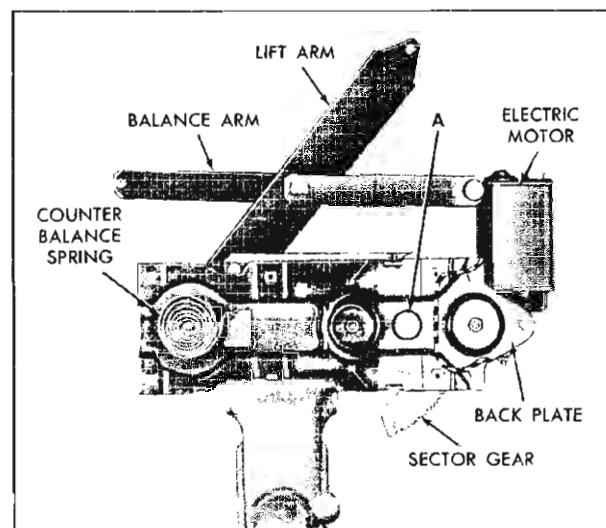

Fig. 3-43 Electric Window Regulator
1. Remove electric window regulator assembly from door and/or rear quarter and clamp securely in vise (Fig. 3-43).
2. Drill a $\frac{1}{4}$ " hole through sector and back plate within area indicated by "A" (Fig. 3-43).
4. Remove motor attaching bolts and remove sector assembly from regulator (Fig. 3-43).